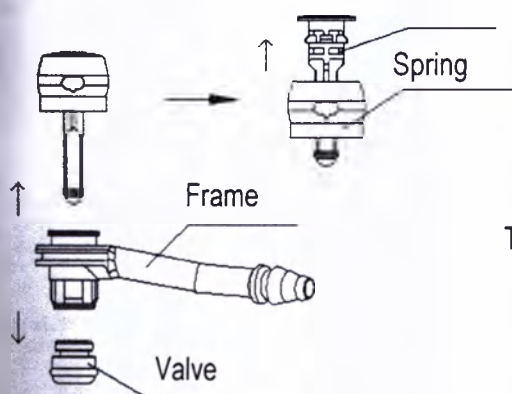

Figure 4. Dismantling of the valve
4.1) Dismantling of the exhaust valve (Figure 4)